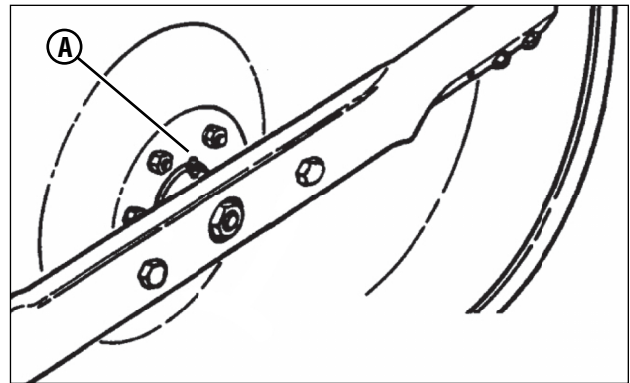

Figure 24: Mower blade spindle grease fitting
4. Lubricate the spindle grease fitting (A, Figure 24) with three shots of general purpose grease from a grease gun.